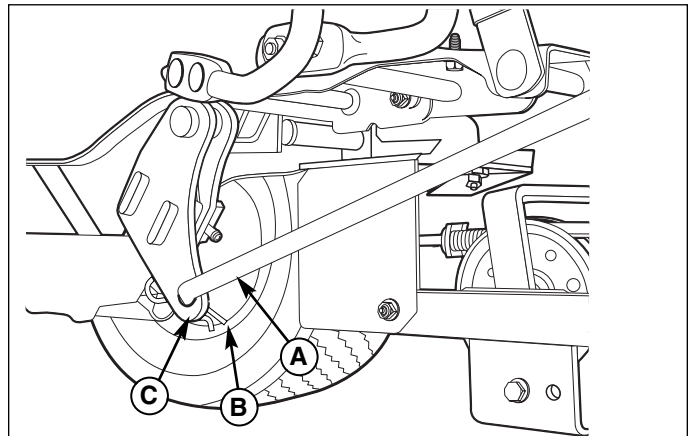

Figure 20. Lift Rod - Front
3. Connect the rear of the lift rod assembly (A, Figure 20) to the tractor lift arm extension (C). Secure with a hair pin clip (B).